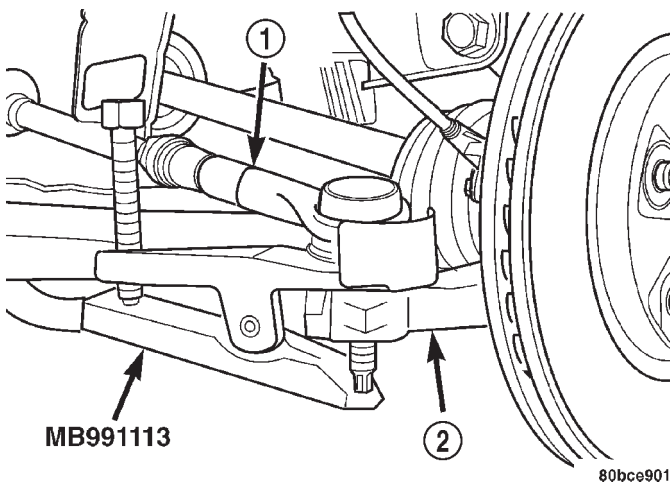

Fig. 5 Tie Rod Removal From Knuckle
(6) Remove the outer tie rod from the steering knuckles using Remover, Special Tool MB991113 (Fig. 5).
(7) Remove the tie rod heat shield.